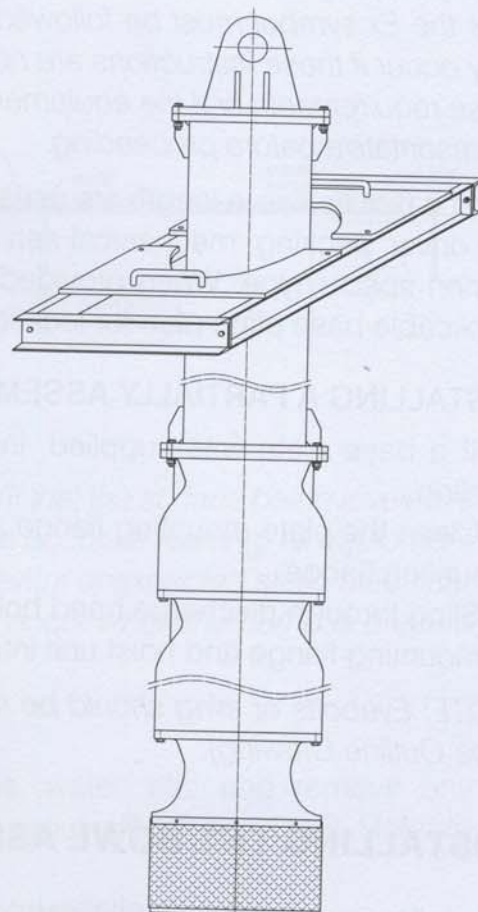

Fig. 3
2. Place two I-beam supports across the base plate opening strong enough to safely support the weight of the entire pump assembly. These I-beams should be connected by threaded rods and nuts so as to clamp them firmly together for the portion to be supported (See Fig.3)
4. Attach sling to elevator clamps or eye bolts and hoist into position over foundation opening (See Fig. 3).